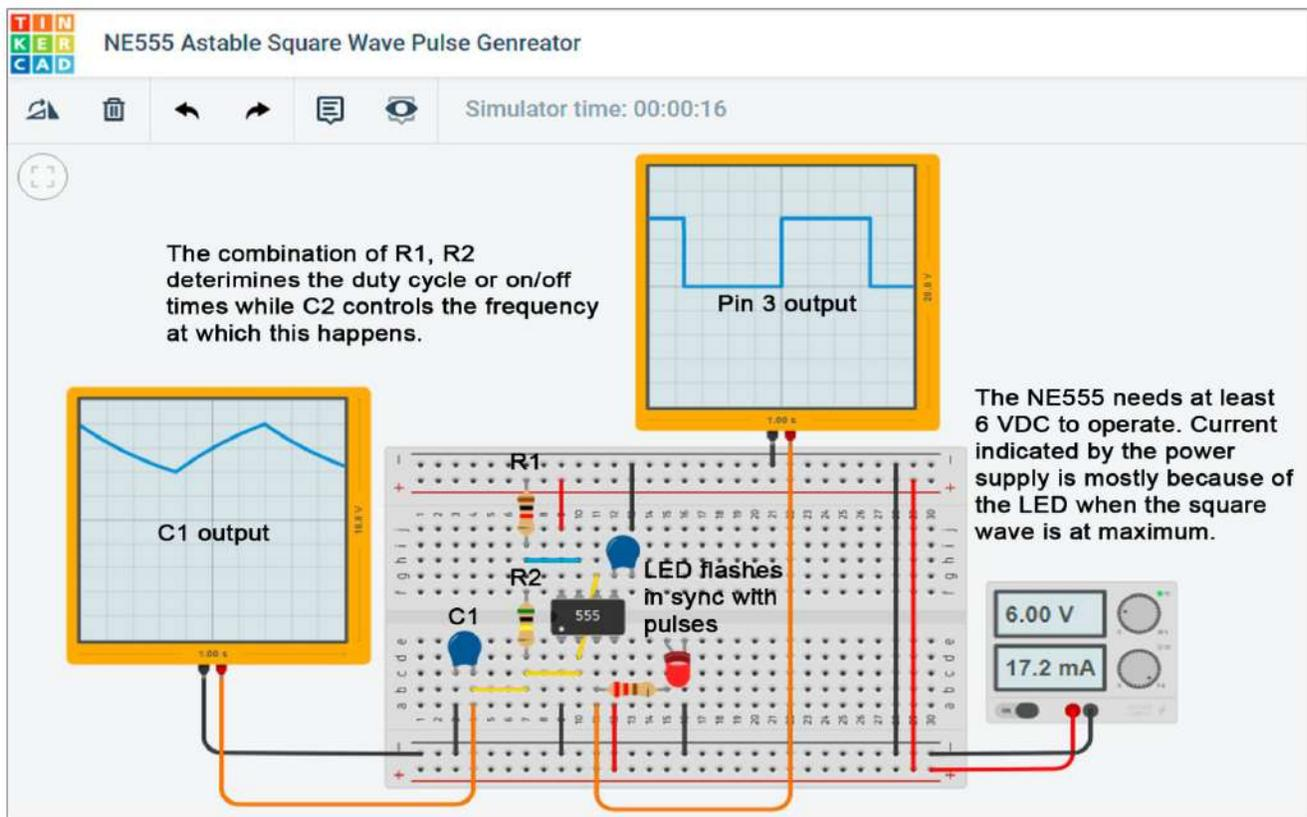

Figure 5: Virtual NE555 LED Flasher
Figure 5 (previous page) depicts the classic 555 “astable” (free running or self-triggering) oscillator. It’s often called a “multivibrator” (Abraham and Bloch, *Annales de Physique* 12, 252, 1919) by old-school electrical engineers because these types of oscillators generate square waves rich in “multiple vibrations” (harmonics), which are still used for calibrating high frequency (HF) radio equipment. By connecting pins 2 and 6 together, the triple-5 flip-flops back and forth from low to high voltage (hold for a certain period) then high to low voltage (hold for a certain period) and repeat forever or until the power is removed.